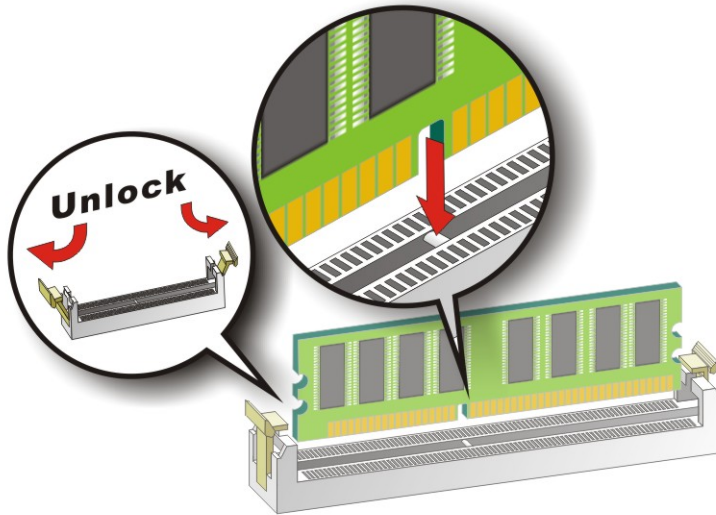

Figure 4-5: DIMM Installation
To install a DIMM, please follow the steps below and refer to **Figure 4-5**.
- Step 1: Open the DIMM socket handles.** Open the two handles outwards as far as they can. See **Figure 4-5**.
- Step 2: Align the DIMM with the socket.** Align the DIMM so the notch on the memory lines up with the notch on the memory socket. See **Figure 4-5**.
- Step 3: Insert the DIMM.** Once aligned, press down until the DIMM is properly seated. Clip the two handles into place. See **Figure 4-5**.